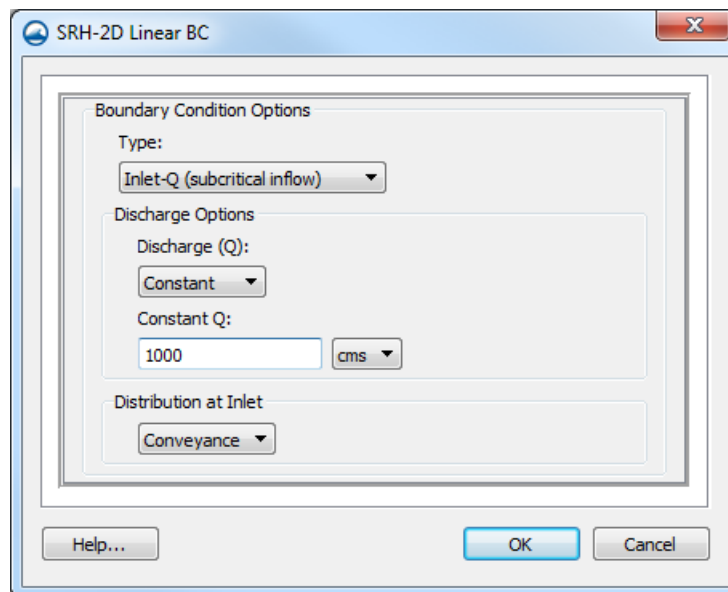

Figure 5 SRH-2D Linear BC dialog
3. Leave *Discharge (Q)* at “Constant”, change the *Constant Q* flow unit to “cms” and enter a value of “1000” m³/s for *Constant Q* as shown in Figure 5, below.